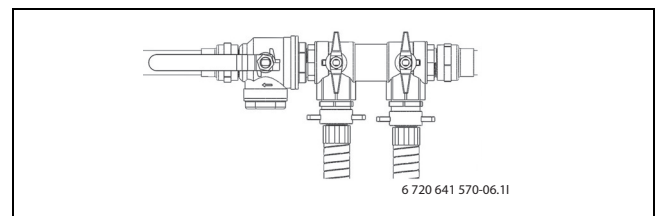

Fig. 23 Filling unit in filling position
- ▶ Turn the valves on the filling unit so that they are in filling position (→ Figure 23).